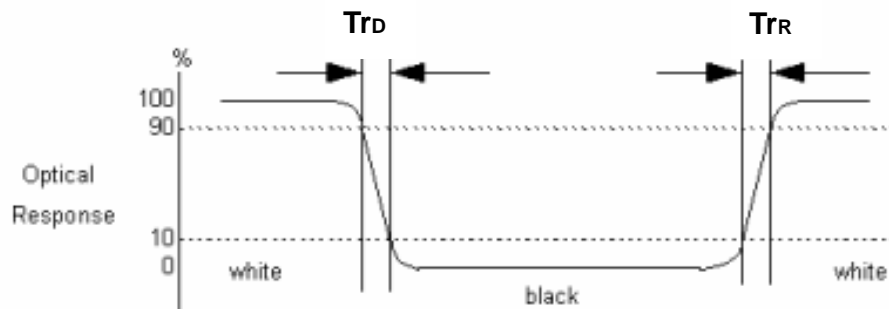

**Fig.4-2 Optical measurement point**
2. Surface luminance is luminance value at point 1 across the LCD surface 50cm from the surface with all pixels displaying white. From more information see Fig. 4-2. When  $V_{DDB} = 24V$ ,  $I_{DDB} = 7.3A$ .  $L_{WH} = L_{on1}$ , Where  $L_{on1}$  is the luminance with all pixels displaying white at center 1 location.